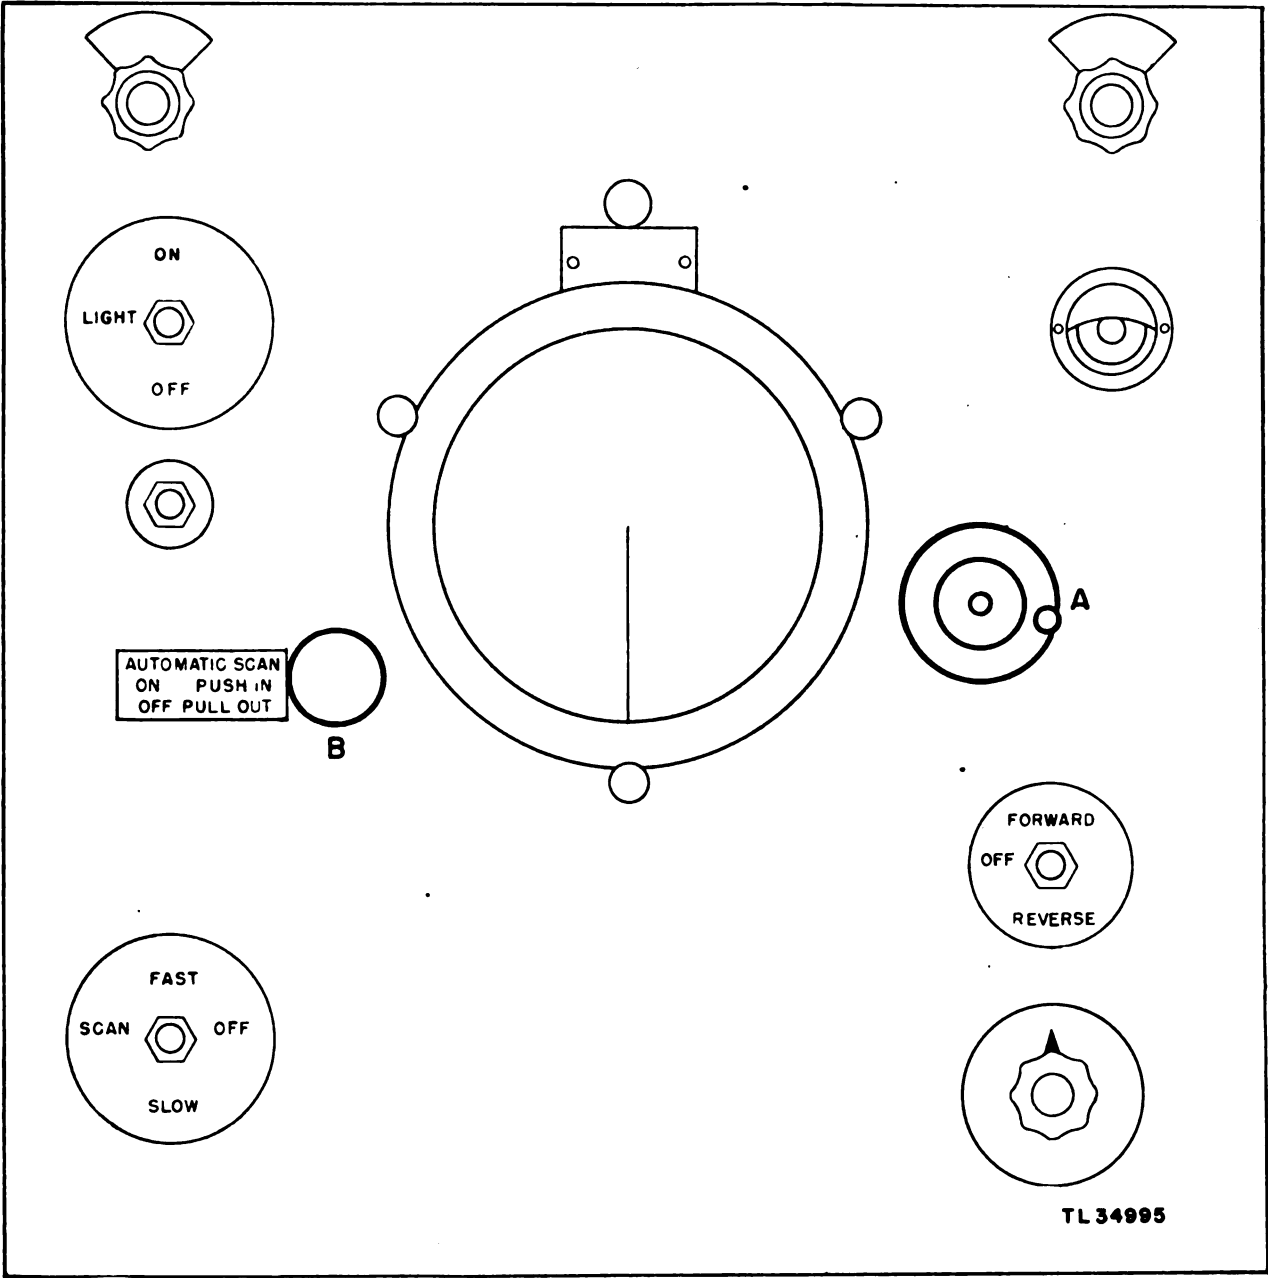

Figure 42. Starting procedure, step No. 5.
e. Check that the MANUAL SCAN handwheel (A, fig. 42) is pulled out, and push in the AUTOMATIC SCAN knob (B) so that the gears engage.